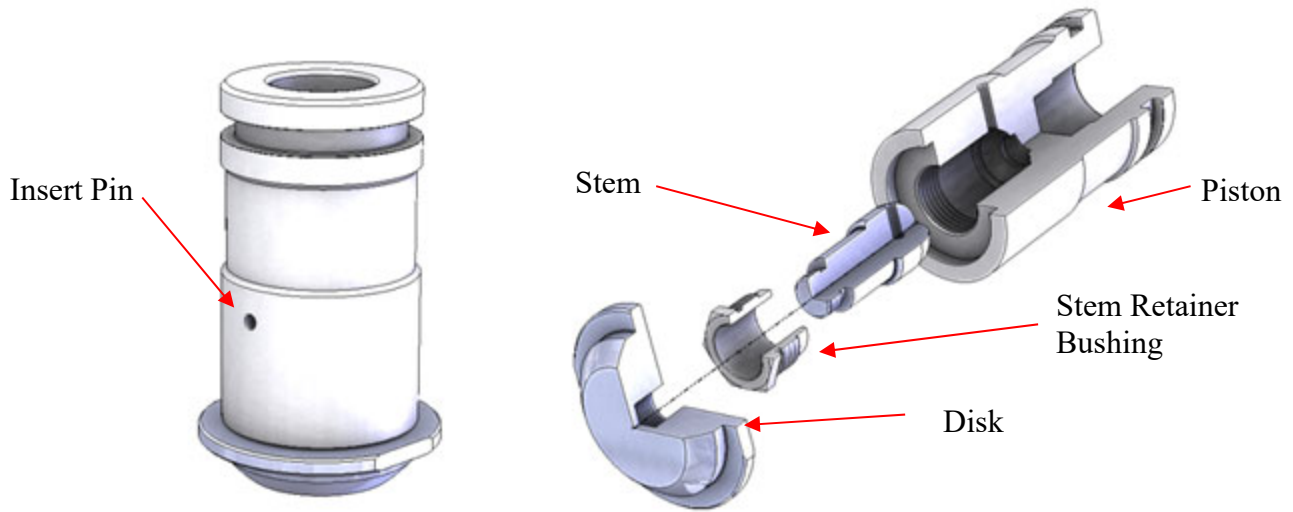

Figure 22: Piston Subassembly
7. Radially fix the inner stem by inserting a rigid steel pin into the outer hole of the piston sleeve. See Figure 22.
9. If the stem needs removal, keep the piston and inserted pin gently fixed and use a hex socket to unscrew the stem retainer bushing. See Figure 22.